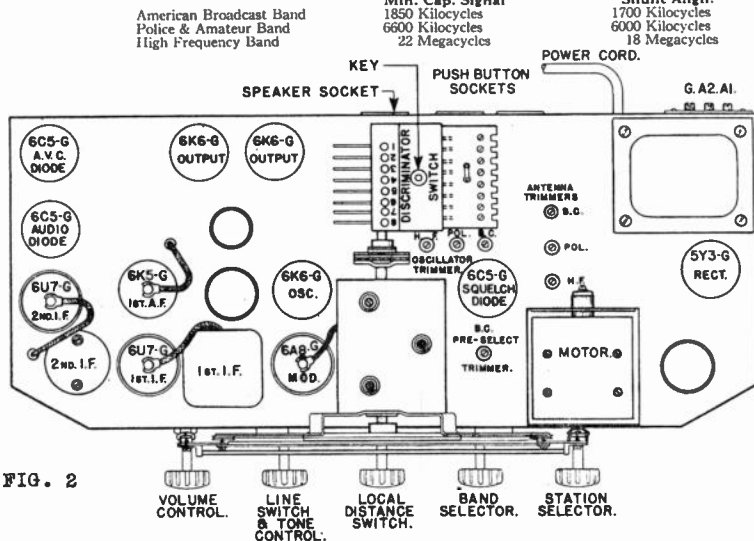

FIG. 2
(c) To align the series trimmer (See Fig. 2), set the signal generator to the frequency indicated below (D) and then tune-in this signal with the station selector for maximum output. To obtain the best adjustment for the series trimmer, it will be necessary to rotate the station selector back and forth slightly while adjusting the trimmer for maximum output. Minor tolerance variations in series alignment at 2500 kilocycles in the Police Band and at 7000 kilocycles in the High Frequency Band may be compensated for by slight reposition of the grid lead of the antenna coil in the Band affected.
**(D) SIGNAL INPUT FREQUENCIES**